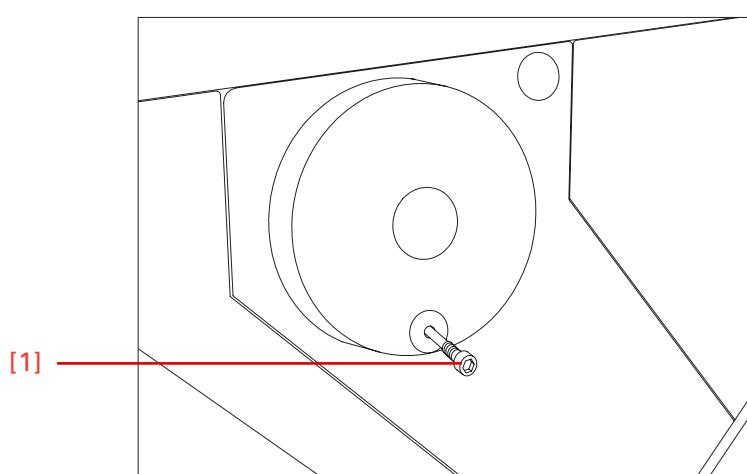

Figure 6b. Loosen the transportation screw.
Instead of the hand wheel handle, a transportation screw (fig. 6b.1) is inserted into the hand wheel. This way, the hand wheel is tightly and securely connected with the housing of the cryostat. **It is absolutely necessary to remove this transportation screw before the initial turn-on!**
- Loosen the transportation screw (fig. 6b.1) via the Allan key, size 6.